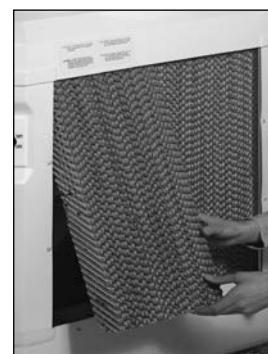

Figure WC-1HP-DHL.10 - Pads
5. Remove the cooling pads from all four sides of the unit. Place a putty knife or large flat-blade screwdriver under the pad to lift it up, then outward. With one pad out, the rest can be easily removed by placing one hand on the pad's inside, your other hand on the outside and lifting the pad up and out from the bottom (see figure WC-1HP-DHL.10 - Pads).